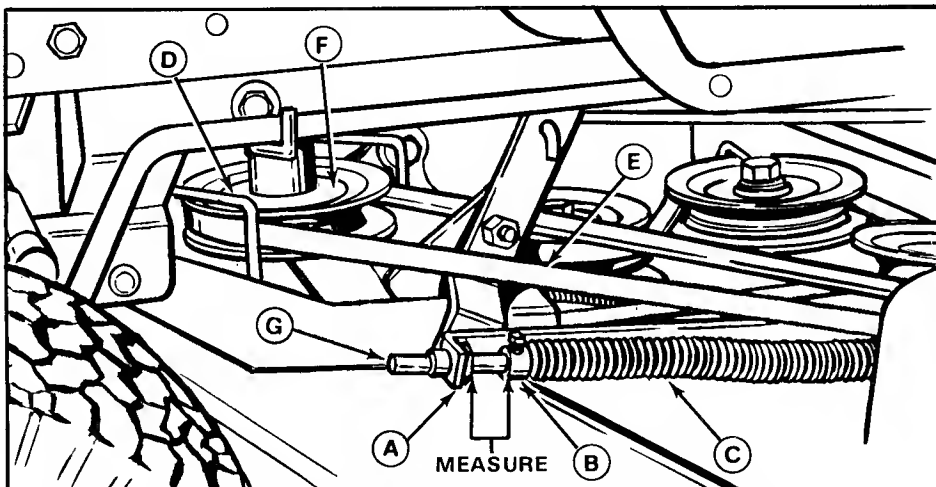
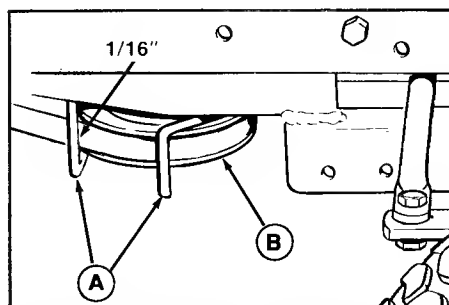

Figure 34. Mower Drive Belt Tension Adjustment - 42" Mower Shown.
Figure 35A. Right Hand Belt Stop, PTO Pulley - 42" Mower
2. Measure the distance between the PTO rod guide (A, figure 34) and the set collar (B). For the 36" mower the measurement should be 3/8 to 1/2 inch (10 to 13 mm). For the 42" mower the measurement should be one inch (25.4 mm).
4. Loosen the setscrew in the set collar (B). Move the rod (G) forward to increase gap, or backward to decrease gap. Retighten the setscrew.
Adjust the left-hand belt stop (figure 34) and the right-hand belt stop (figure 35A or 35B) to obtain 1/16 in (1.5 mm) from belt with PTO engaged. Loosen capscrew to adjust. If 1/16 inch cannot be obtained without touching pulley, place as close as possible.